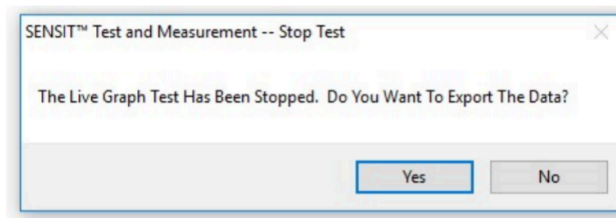

Figure 10: Stop Test
- m) After all 4 brake forces have been collected, return to **the Live Graph Setup** and click "4. Stop Test." After a moment, Figure 10 should appear.